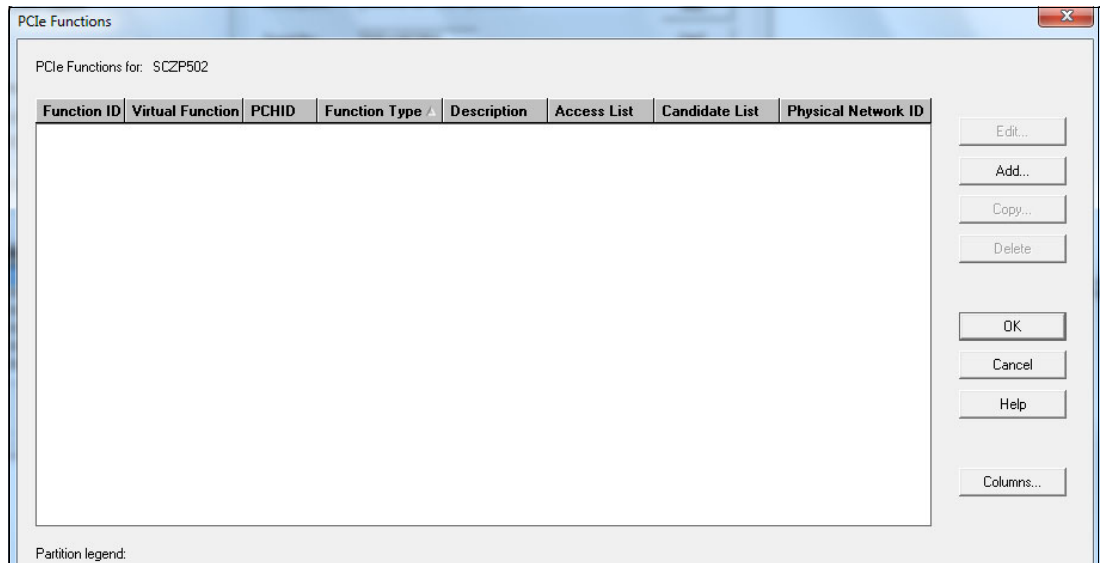

Figure 5-41 HCM - PCIe functions: summary list
4. The PCIe Functions summary window (Figure 5-41) opens. Click **Add**.